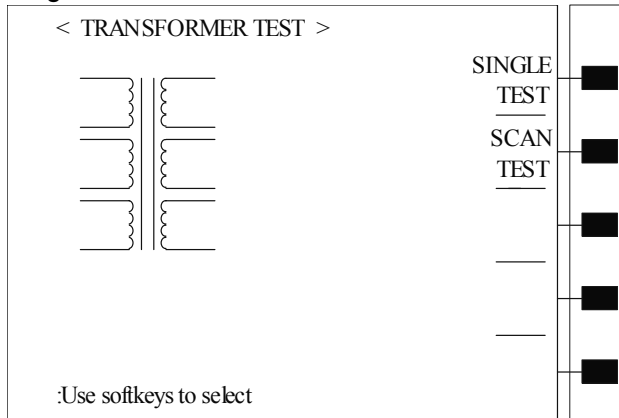

Figure 3-2-1
- Press **[TRANS]** key on the front panel of host to enter into **<Transformer test>**, refer to figure 3-2-1.